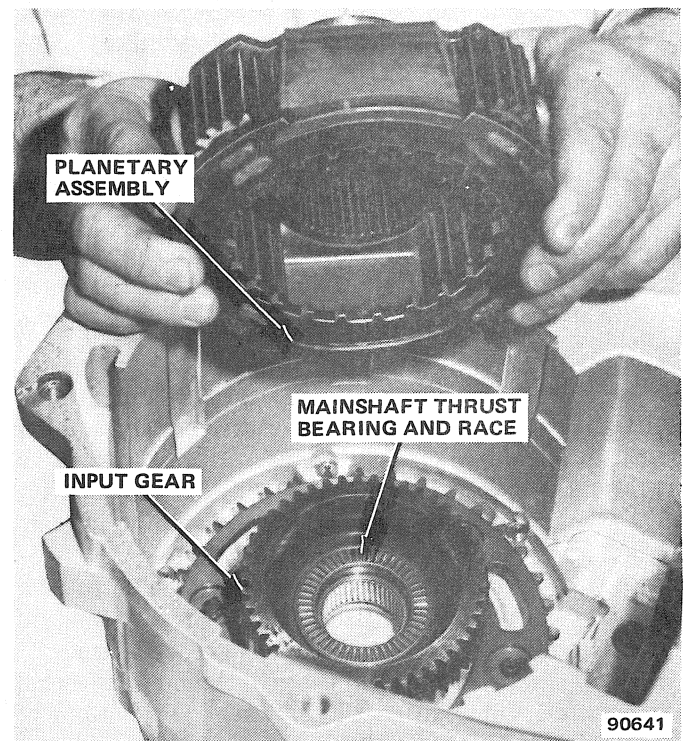

Fig. 2D-37 Input Gear, Mainshaft Thrust Bearing and Planetary Installation
- (5) Install range sector.
- (6) Install operating lever on range sector shaft. Install and tighten shaft washer and locknut to 18 foot-pounds (24 N•m) torque.
- (7) Install planetary assembly over input gear (fig. 2D-37). Be sure planetary is fully seated and meshed with gear.
- (8) Install planetary thrust washer on planetary hub (fig. 2D-22).
- (9) Install inserts in range fork, if removed.